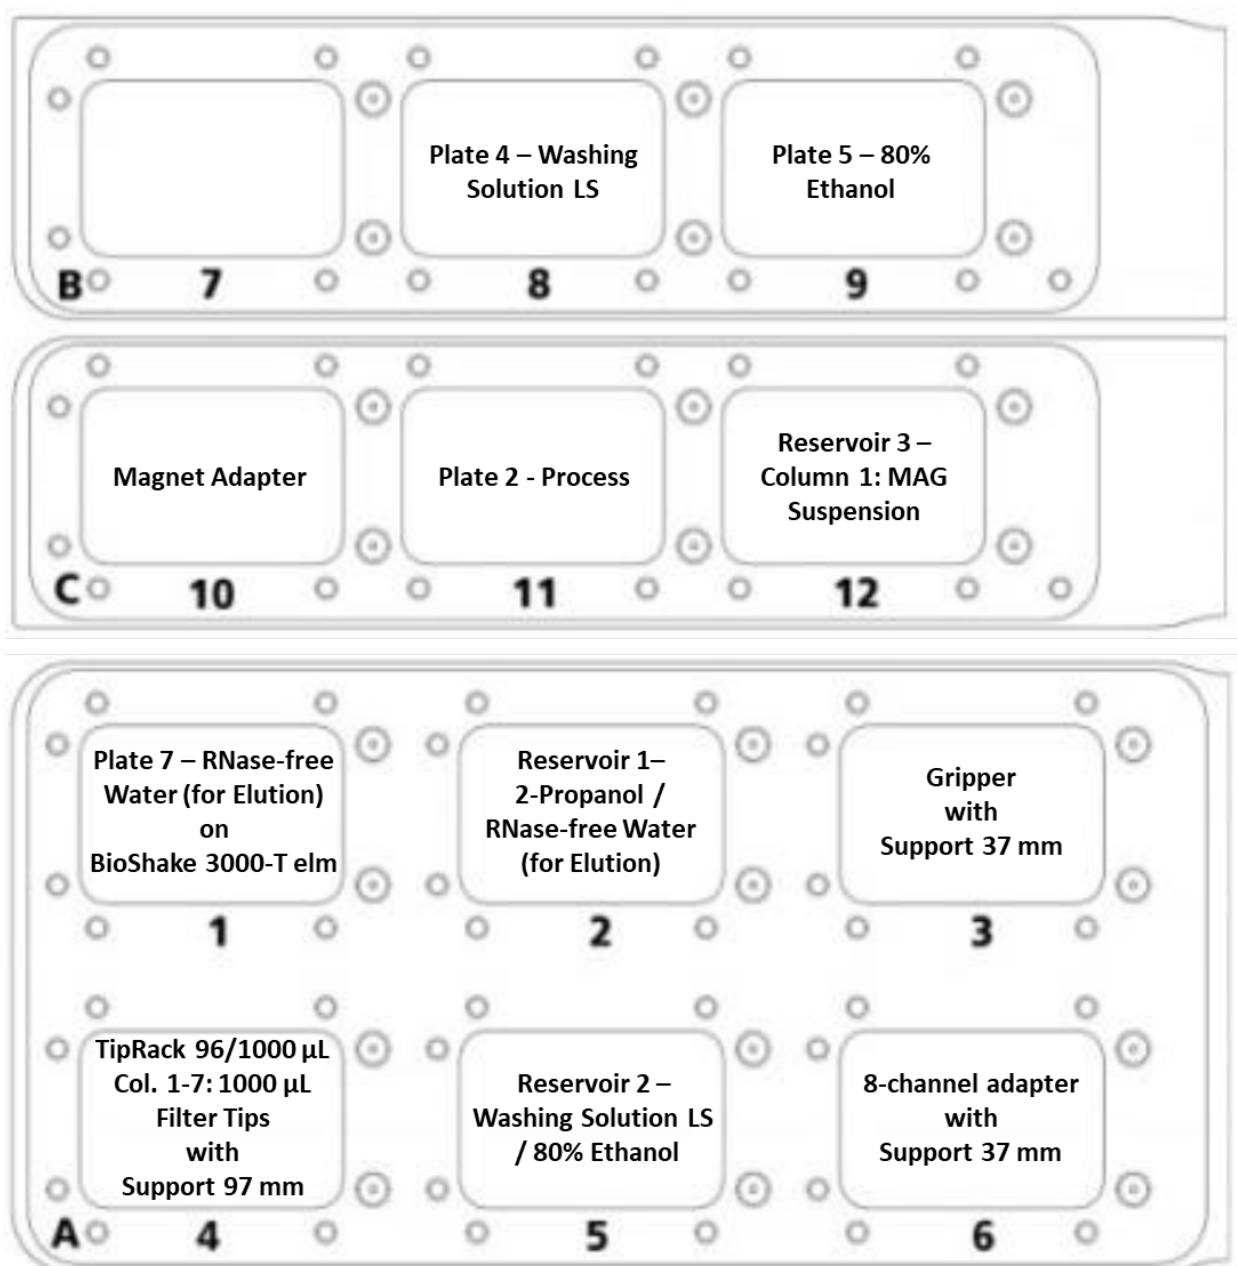

Figure 3: Deck layout for starting the prefilling protocol.
4. Transfer the content of the bottle "**RNase-free Water (for Elution)**" (70 mL) into the **right** side of the 2 column reservoir labeled "Reservoir 1 – 2-Propanol / RNase-free Water (for Elution)". Place the filled reservoir into the CyBio FeliX on position 2 (→ see Figure 3).
6. Transfer 120 mL **80% Ethanol** into the **right** side of the 2 column reservoir labeled "Reservoir 2 – Washing Solution LS / 80% Ethanol". Place the filled reservoir into the CyBio FeliX on position 5 (→ see Figure 3).
7. Vortex the 9 mL-bottle **MAG Suspension** properly (at least 30 s). Transfer the complete content of the bottle into column A1 of the reservoir labeled "Reservoir 3 – MAG Suspension". Place the filled reservoir into the CyBio FeliX on position 12 (→ see Figure 3).
9. Place the CyBio TipRack 96/1000 µL into the CyBio FeliX on position 4 (→ see Figure 3).
10. Place the 8-channel adapter (Head R 96) with the support 37 mm into the CyBio FeliX on position 6 (→ see Figure 3).
11. Place the empty, labeled plates on the CyBio FeliX deck according to the deck layout for the prefilling protocol (→ see Figure 3).